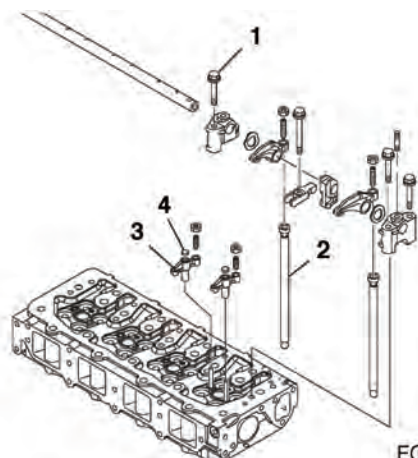

Figure 153
1. Reinstall the valve bridges (3, Figure 153) in their original locations and ensure each seat (4, Figure 153) is in place.
2. Insert the push rods (2, Figure 153) in their original locations.